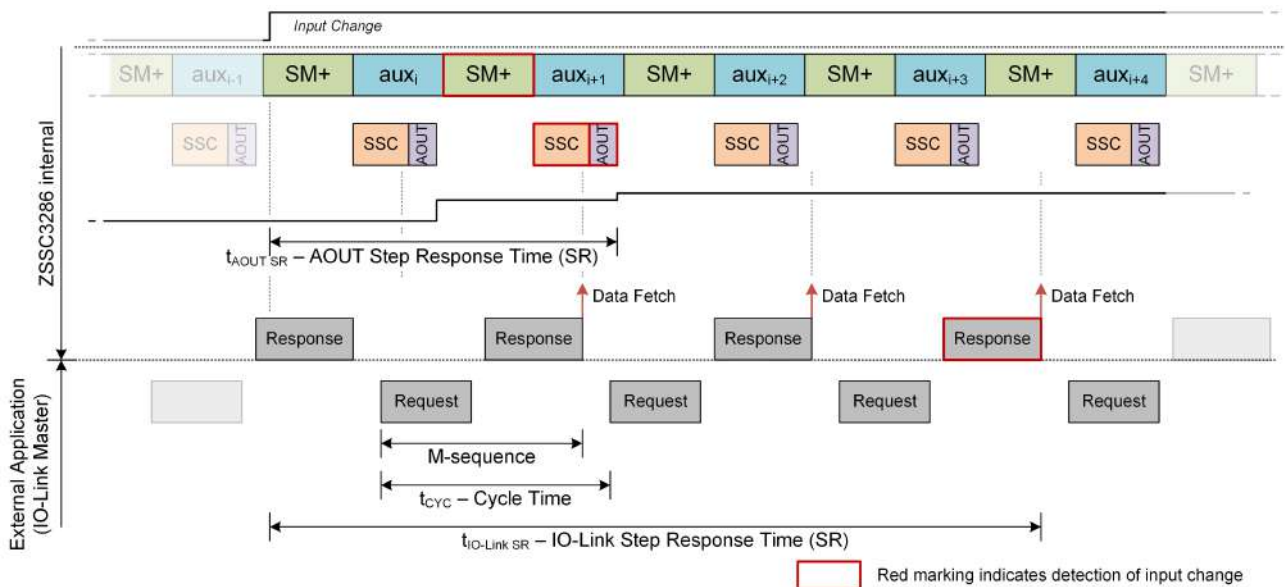

Figure 25: Measurement Flow and Latency for SM+/AZ Configuration
As shown in Figure 25, the worst-case latency consists of:
- SM+/AZ configuration: refer to Figure 25 and description for step response in subsection 4.6.4